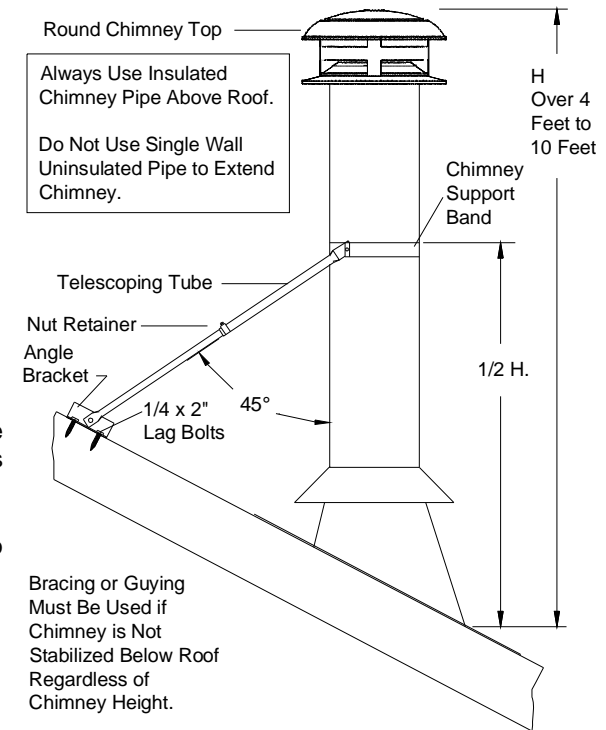

Fig. 1 Typical Roof Bracing
A. Place the Chimney Support Band around the chimney at a minimum height of 1/2 (2/3 or greater if possible) the distance that the chimney extends above the roof. See Fig. 1. Secure the Chimney Support Band using two (2) 1/4" X 2" and two (2) 1/4" x 1/2" bolts and nuts.